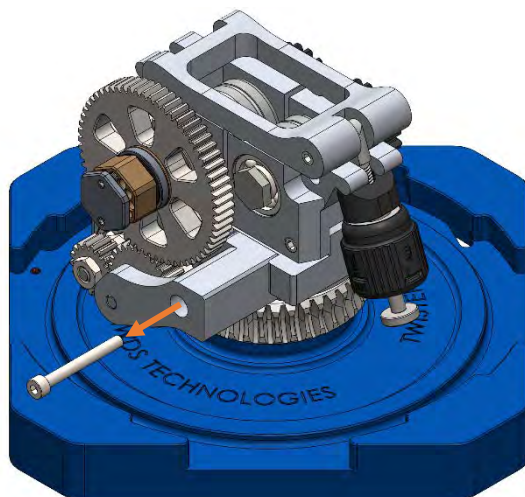

Figure 30
2. Using the hexagonal key, unfasten and extract the module locking screw, carefully avoiding to drop it. Figure 30;